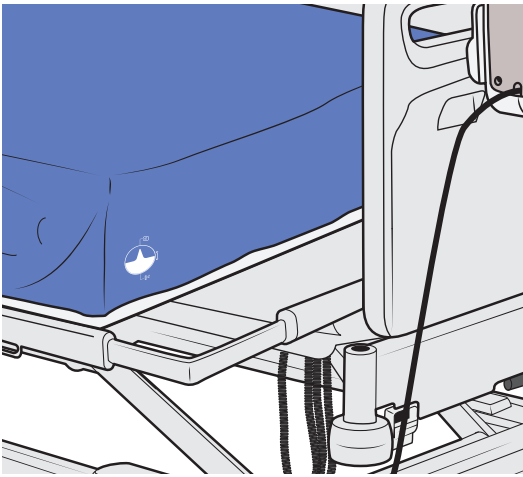

Figure 55
1. Locate the valve symbol on the bottom of the mattress. See Figure 55
Locate the valve symbol on the bottom of the mattress. See Figure 55